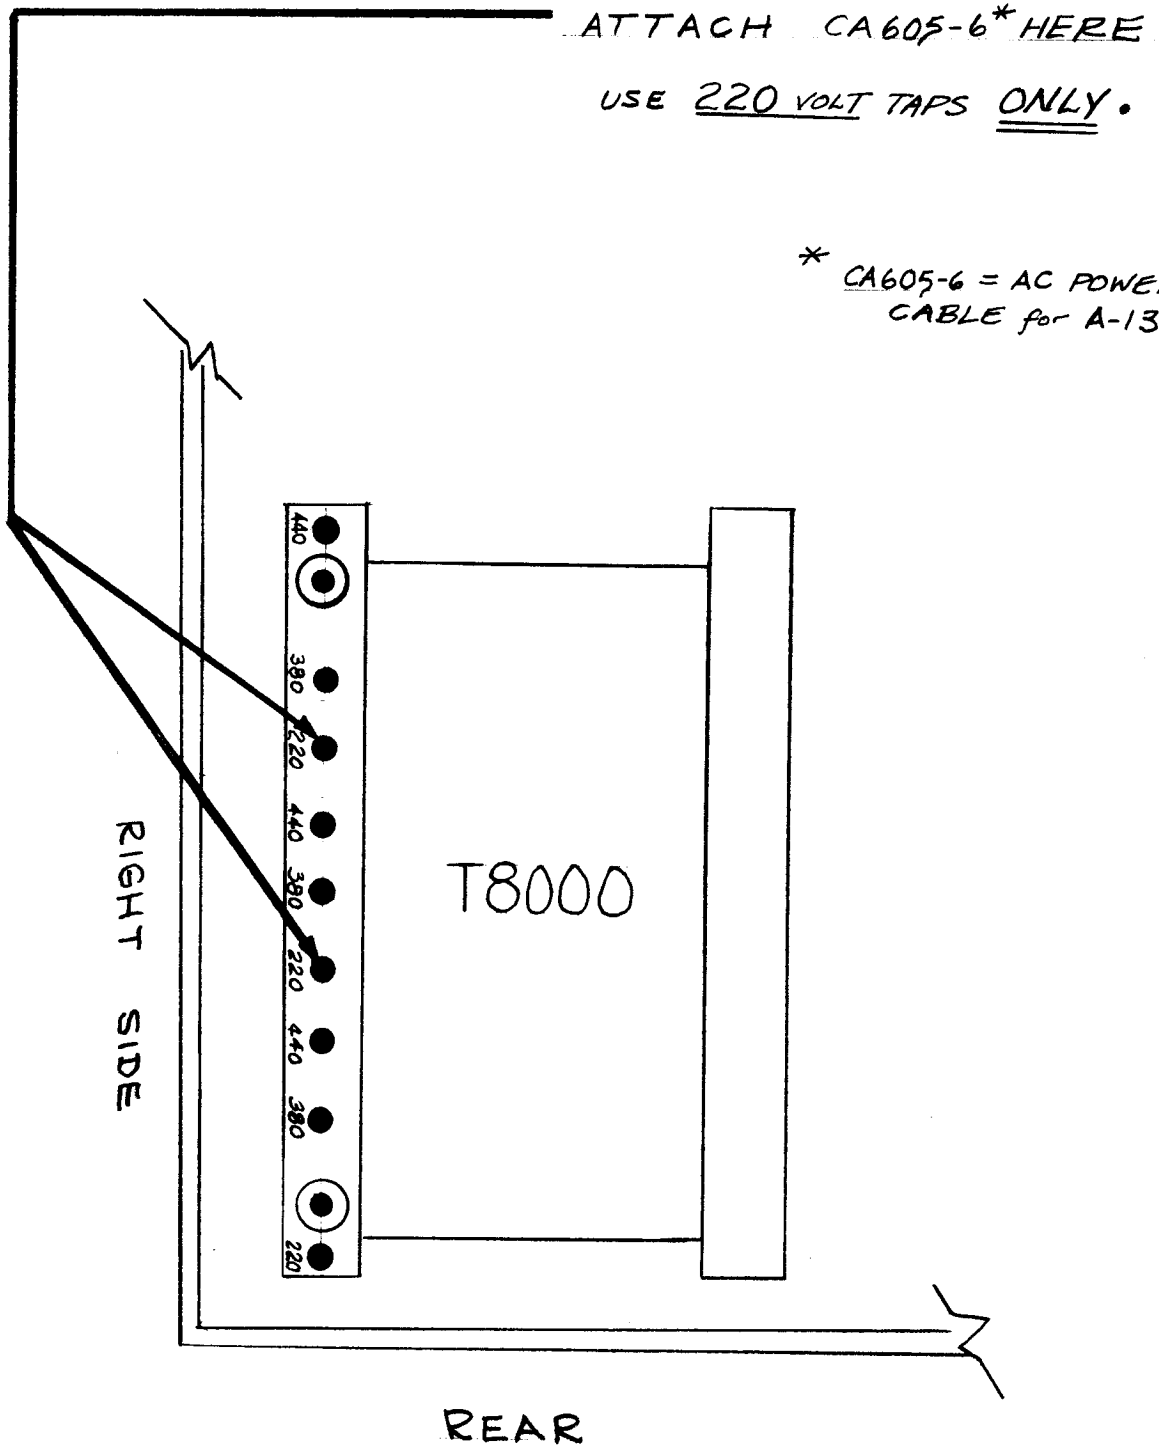
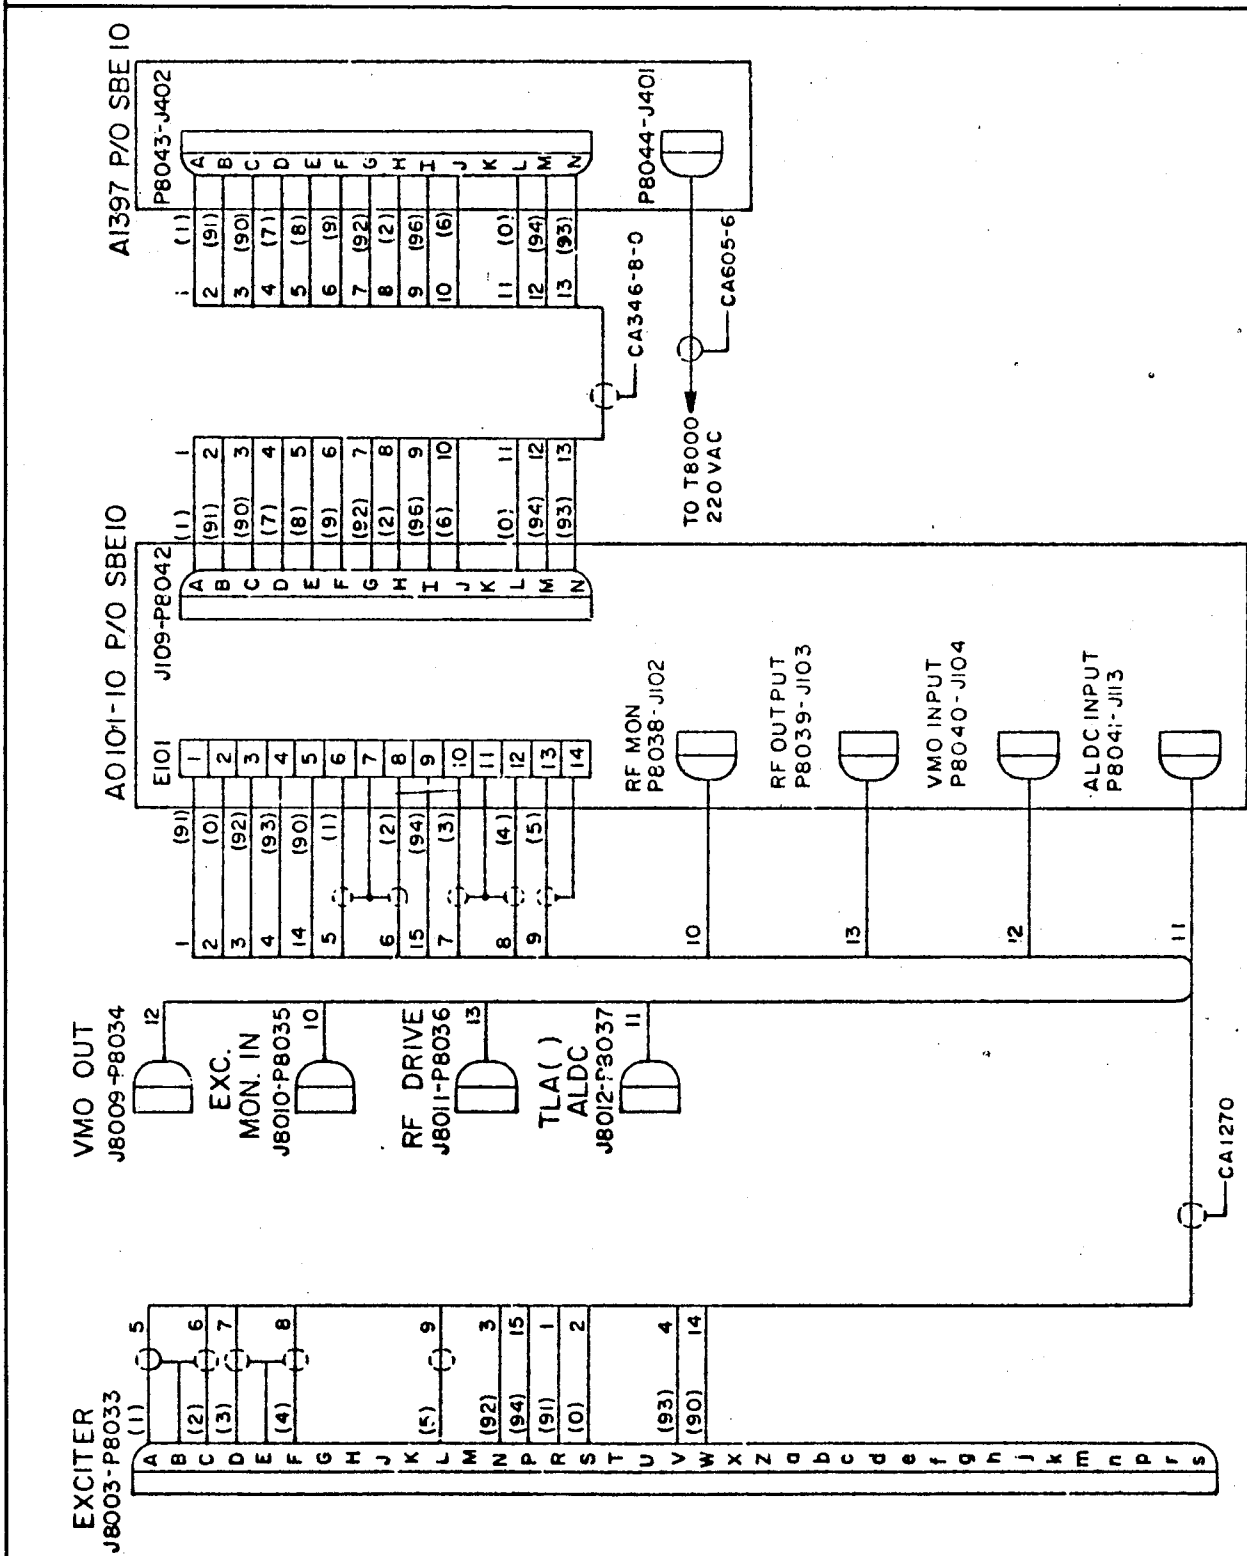
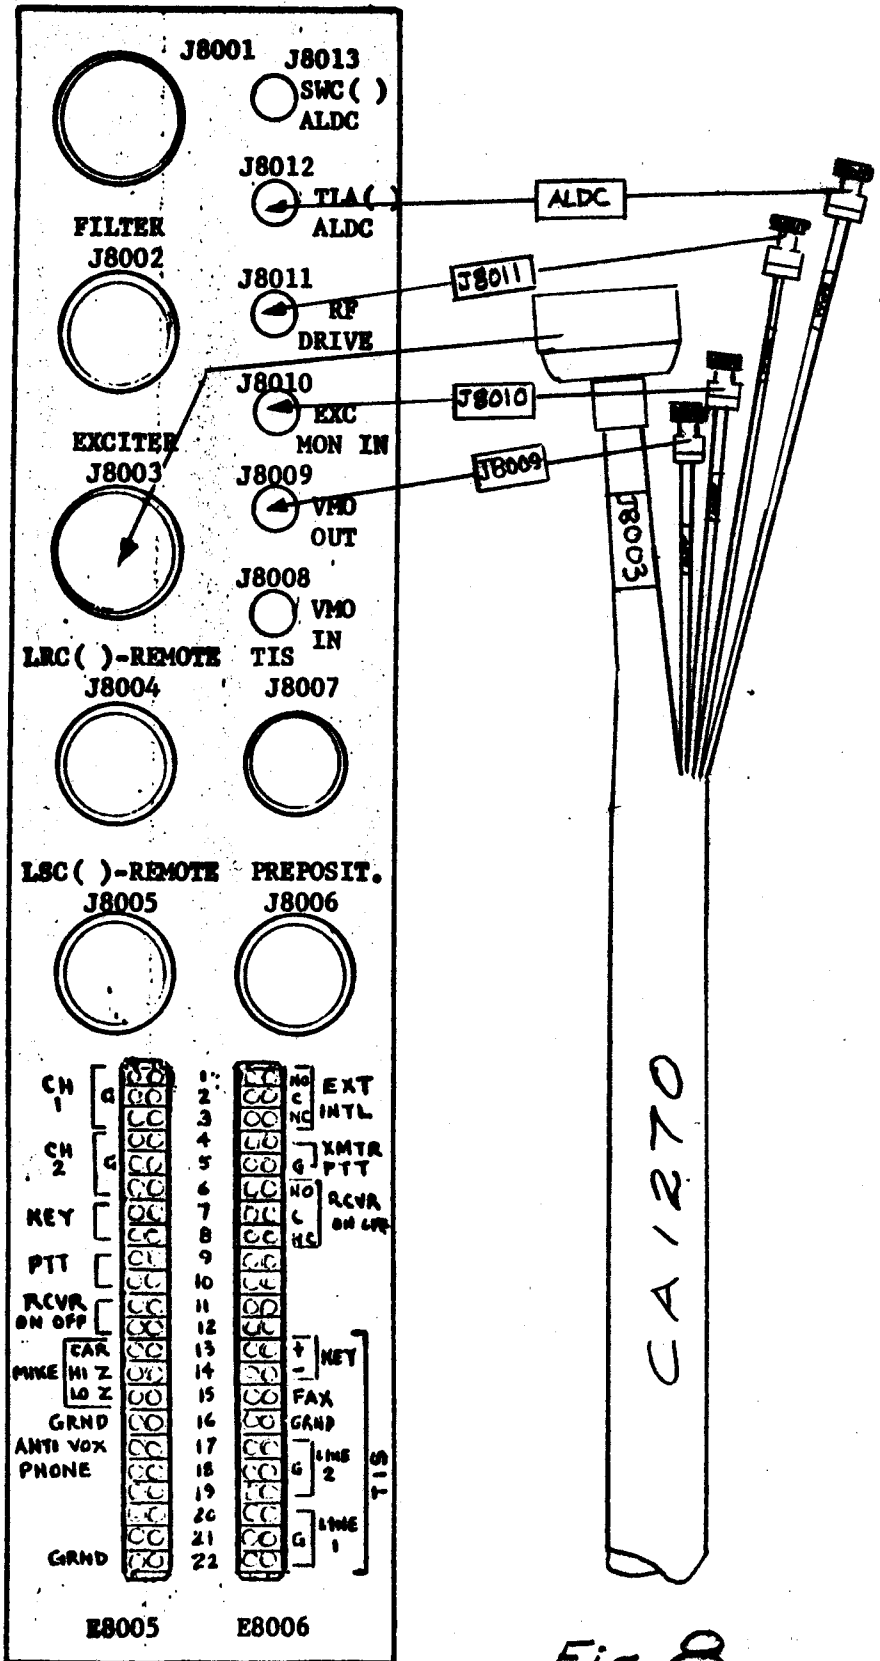

Fig. 5
Fig. 7
Fig. 8
- Step 16: Wire the other end of CA605-6 to transformer T8000 as shown in Fig. 5.
- Step 24: Connect the other end of CA1270 to the junction box in the transmitter as shown in Fig. 7 and Fig. 8.
Step 26: Recheck all wiring per Fig. 5, Fig. 7, and Fig. 8.